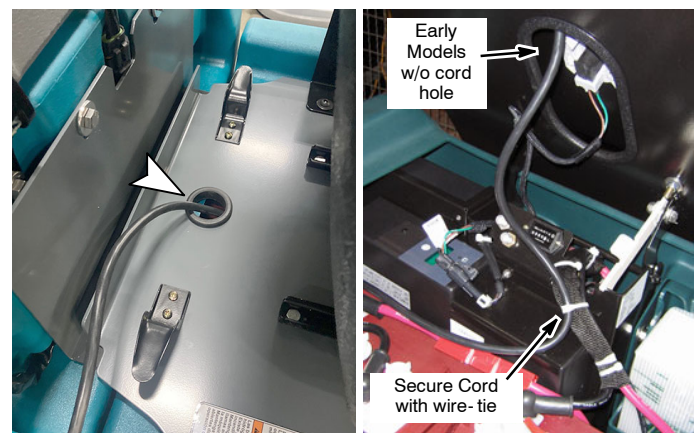

Fig. 10
15. Install grommet in seat plate and route the charger's power cord through hole. Secure power cord with wire-tie as shown (Figure 10).